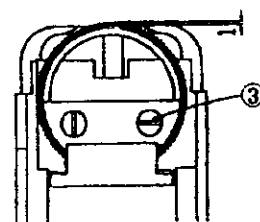

Fig30
- 2) For double needle lose the screw (3) to adjust the highness of roller, shown in fig.30